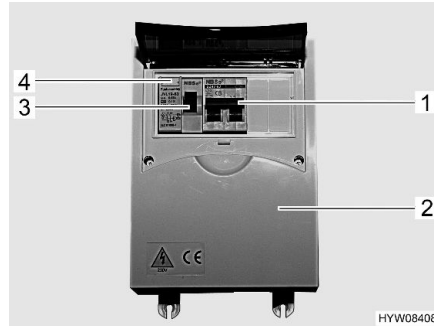

Fig. 70 240 V fuse box with safety cut-out and FI-switch
- Switch off the safety cut-out (Fig. 70,1) in the fuse box (Fig. 70,2).
- When the vehicle is connected to the 240 V supply, press the test button (Fig. 70,4) of the fault current protection switch (FI-switch) (Fig. 70,3) in the fuse box (Fig. 70,2). The fault current protection switch must trip.